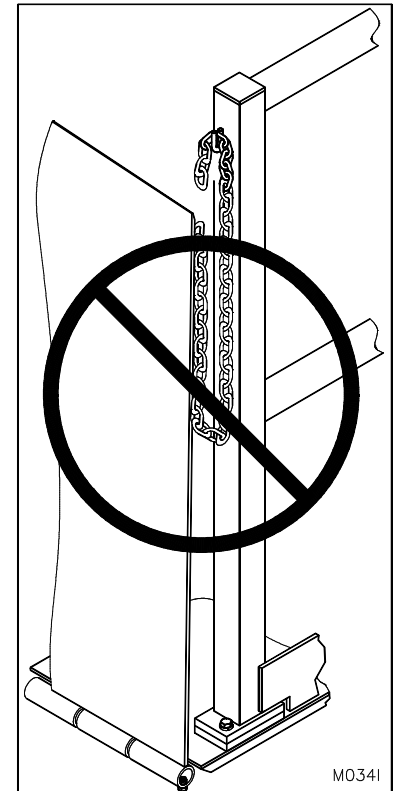
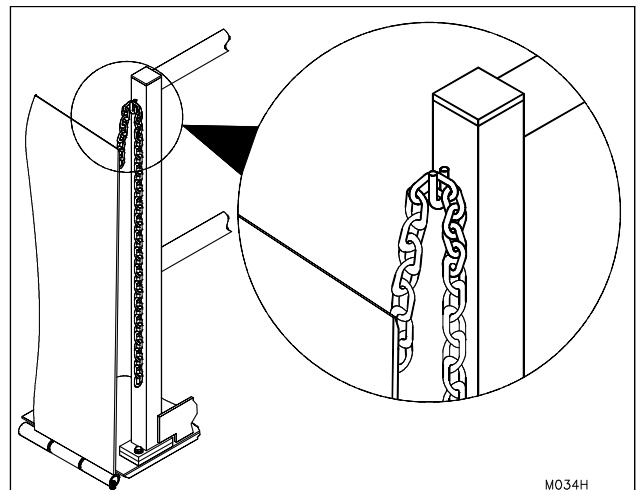

Figure 7: Hinged Bridge Not Properly Secured (See Figure 8)
Figure 8: Hinged Bridge in Vertically Stored Position
7. When not in use, the platform should be in the lowered position with the Hinged Bridge(s) and approach ramp(s) in an upright vertically stored position with the Hinged Bridge chain(s) engaged. (See "Figure 8: Hinged Bridge in Vertically Stored Position" on page 10 and "Figure 7: Hinged Bridge Not Properly Secured (See Figure 8)" on page 10)